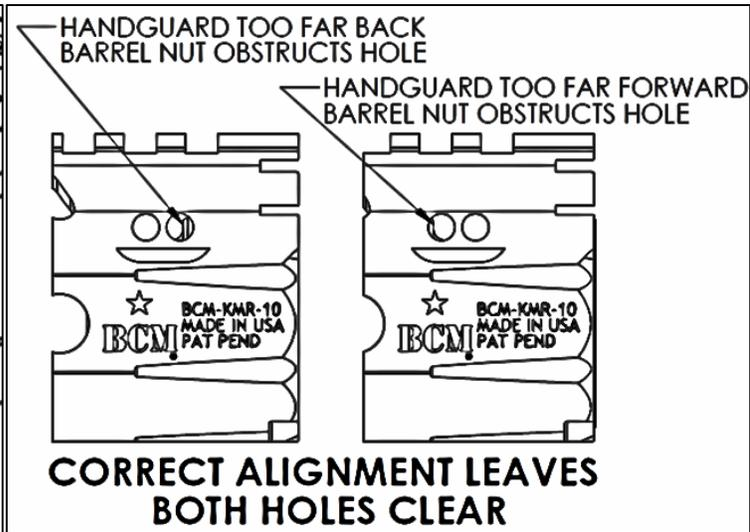

Figure 2.
- The handguard is fully seated when both screw holes align with the groove of the barrel nut. The barrel nut should not occlude either cross bolt hole. (See **Figure 2** to for depiction of a fully seated handguard.)